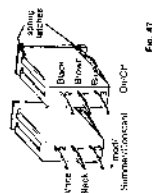

Fig. 47
- 8.22.47** Replace electrical connections. Refer to fig. 47 to ensure correct locations.
Refer to fig. 47
- 8.22.51** To replace refer to fig 47 to ensure switch is in correct attitude and press into hole from the front until spring tabs latch. Refer to fig. 47 for correct wiring details.